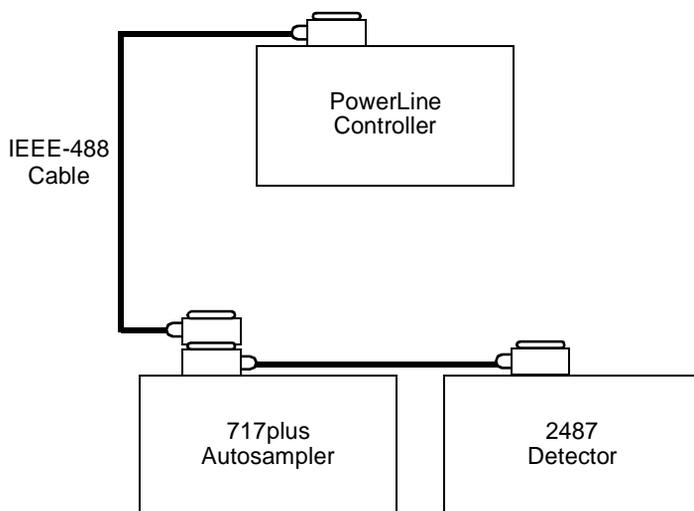

Figure 2-14 PowerLine Controller IEEE-488 Connections
3. If you are using a multicomponent configuration (shown in Figure 2-14), connect a second IEEE-488 cable to the stackable connector on the PowerLine instrument. Connect the other end of the cable to the IEEE-488 port on the next PowerLine component. Figure 2-14 illustrates IEEE-488 cable connections in a PowerLine system.